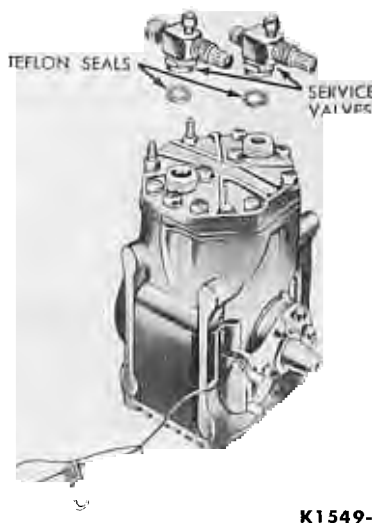

FIG. 12—Compressor—Service Valves Removed
1. Isolate the compressor (see Common Adjustments and Repairs in this part). Disconnect the two service valves and hoses from the compressor (Fig. 12). Energize the clutch and loosen and remove the clutch mounting bolt.